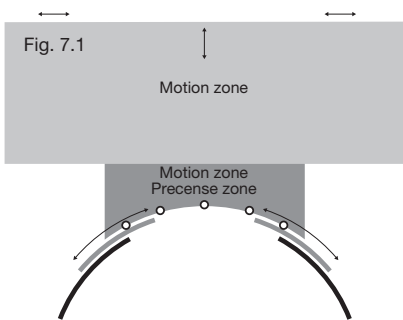

Fig. 7.1
- Curved door outside:** Use 5 markers (see fig. 7.1)